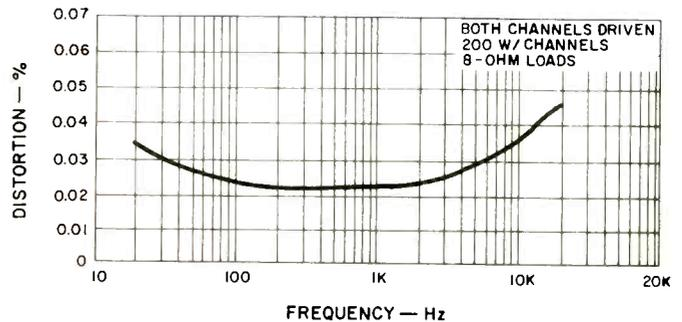

Fig. 4—Distortion vs. frequency.
to those stated for the various impedance connections. In case you are wondering why the damping factors vary the way they do, depending upon auto-transformer output taps connected to the load, bear in mind that the "looking back" impedance used in calculating damping factor includes the impedance of that portion of the auto-transformer winding which is in series with the output stage take-off point. Thus, the highest damping factor is observed at the 2-ohm tap, since that tap is closest to the input tap to the transformer, to which the output stages are connected. Although the 8-ohm damping factor may seem low (16) compared to some of the astronomical damping factor figures quoted for solid-state amplifiers that do not employ output transformers, we could not attribute any sound quality deficiencies in our subsequent listening tests to this factor. Distortion vs. frequency at rated output is plotted in Fig. 4 and reached a maximum of 0.045 per cent at 20 kHz.